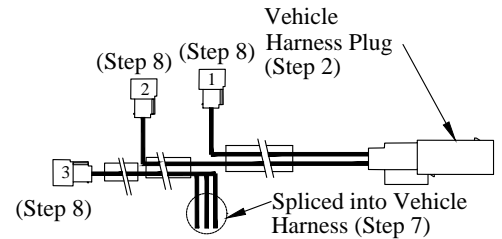

Figure 5: New sensor harness.
2. **Plug** new sensor harness into vehicle wire harness (Figure 5).
7. **Splice** sensor harness into vehicle harness at location "A", matching wire color (Figure 5).
8. **Plug** sensors into new sensor harness (Figure 5).